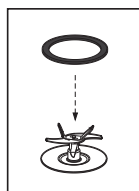

Fig. 14
1. Install the sealing ring over the blade (Fig. 14).